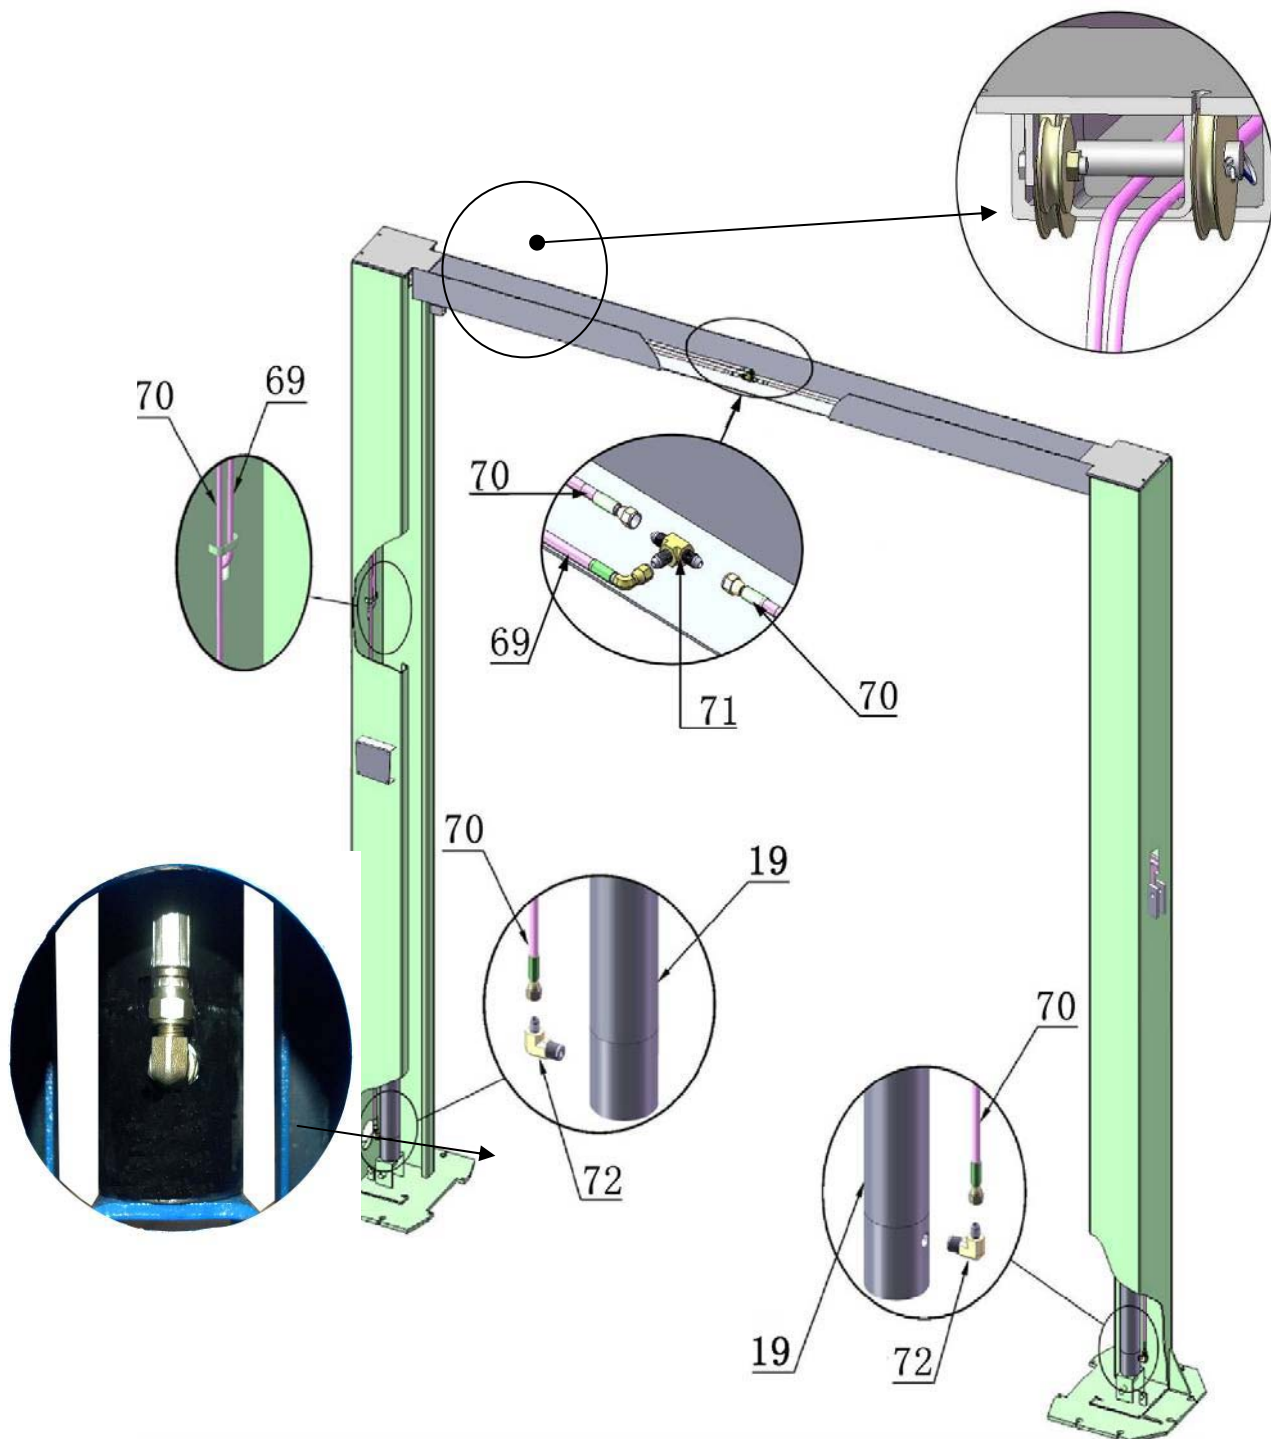

Fig. 18
H. Oil Hose Assembly. (See Fig. 18)